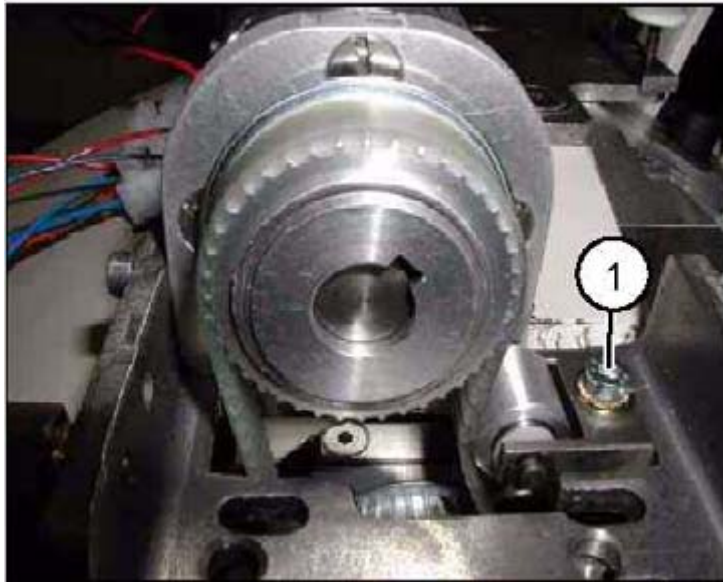

Fig. 27: Orbital motor 1
1. Loosen the belt tensioner of the toothed belt of the orbital drive (1/Fig. 27 / p. 71).
9. Retighten the toothed belt of the orbital drive (1/Fig. 27 / p. 71). When depressed by thumb pressure on the opposite side, the belt should give approx. 2 to 3 mm.